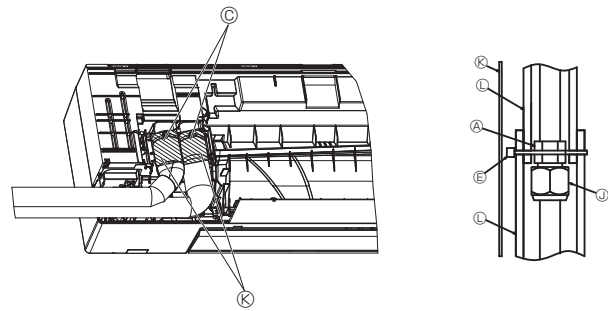

Fig. 3-11
- (6) Cover the joint with a pipe cover, and fix them with a band ⑤. (Fig. 3-11)